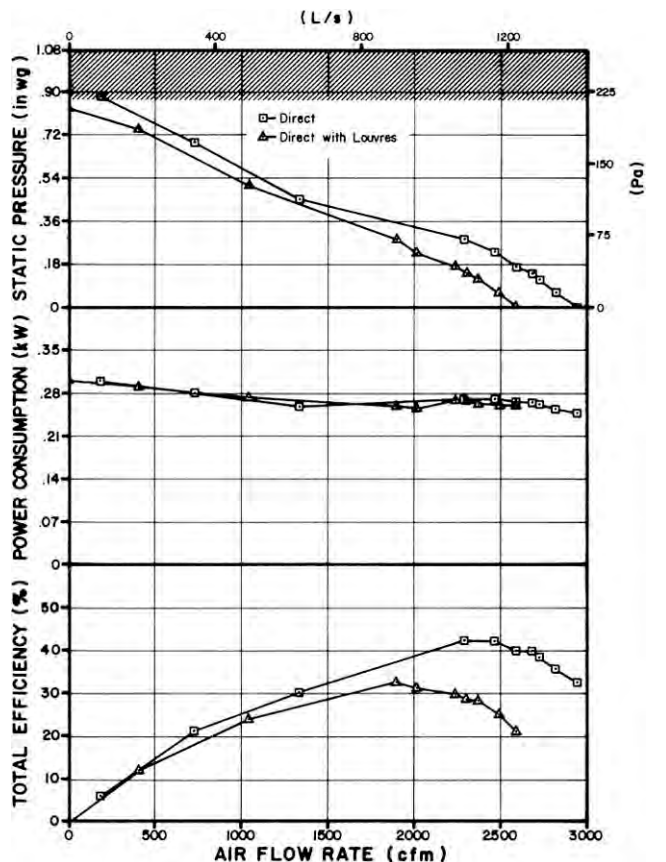

FIGURE 4. Effect of Louvres on Fan Performance.
**Effect of Louvres:** The optional louvres were installed on the inlet side of the fan to determine their effect on fan output. The fan was tested under these conditions in the single speed mode only. Using the louvres reduced the air flow rate by 10 to 17% (FIGURE 4) over the typical range of operation. For example, at a static pressure of 0.125 in wg (31.1 Pa), the louvres reduced the air flow rate by 13%, from 2710 cfm (1280 L/s) to 2350 cfm (1110 L/s) (TABLE 1). The efficiency was in turn reduced from 39 to 28%. The use of other control devices such as shutters, screens and hoods would also reduce air flow rates by varying amounts. The use of such control devices have to be taken into consideration when designing a ventilation system.